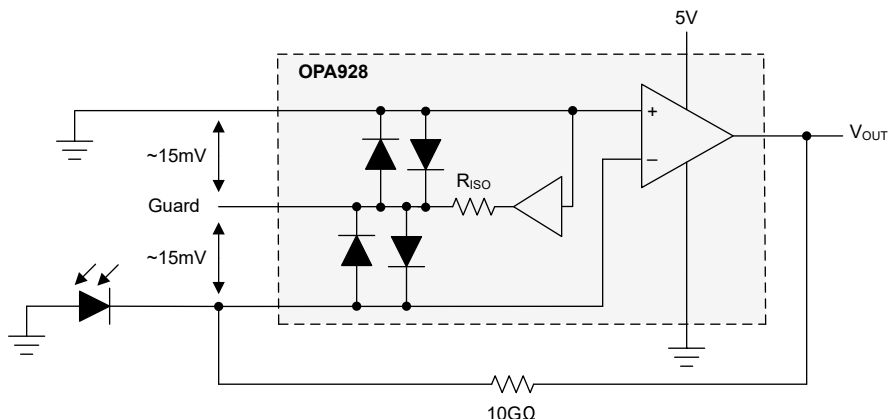

**Figure 7-2. Driving the Guard, External Guard Driver**
**Figure 7-2** shows how the PCB guard is driven with an external guard driver instead of the OPA928 internal guard buffer. To prevent the input bias current of the external guard driver from degrading the input signal, track the low-impedance input of the OPA928. If an external guard driver is used, the OPA928 guard pins can be left unconnected or can be overdriven by the external guard driver. Choose a low-offset, low-noise amplifier for the guard driver because any voltage potential between guard and input traces causes current to leak through the high-impedance trace. Include an isolation resistor at the output of the guard driver to prevent gain peaking due to capacitive loading and to provide short-circuit protection. Confirm that the guard driver is stable and capable of driving the capacitive load presented by the guard, including long cable lengths, if applicable.